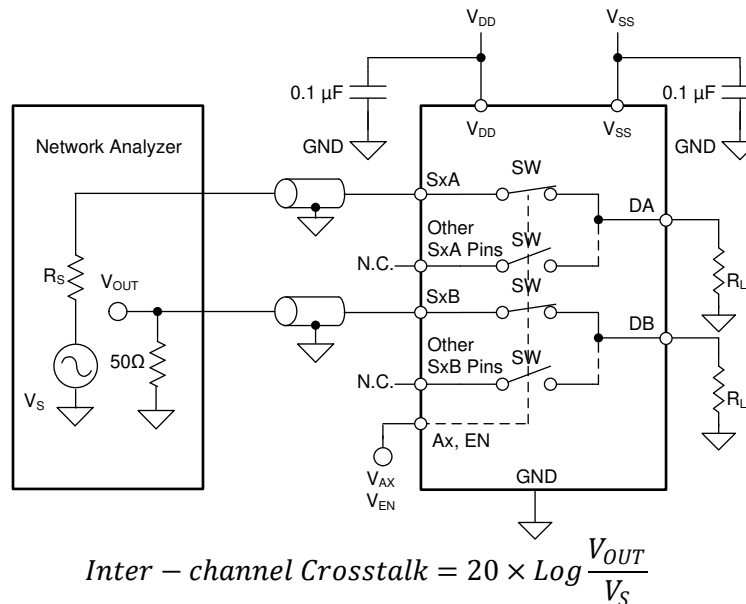

图 8-14. Inter-channel Crosstalk Measurement Setup
2. Inter-channel crosstalk ($X_{TALK(INTER)}$): the voltage at the source pin (S_x) of an on-switch input, when a 1- V_{RMS} signal is applied at the source pin of an on-switch input in a different channel, as shown in 图 8-14. Inter-channel crosstalk applies only to the TMUX7309F device.